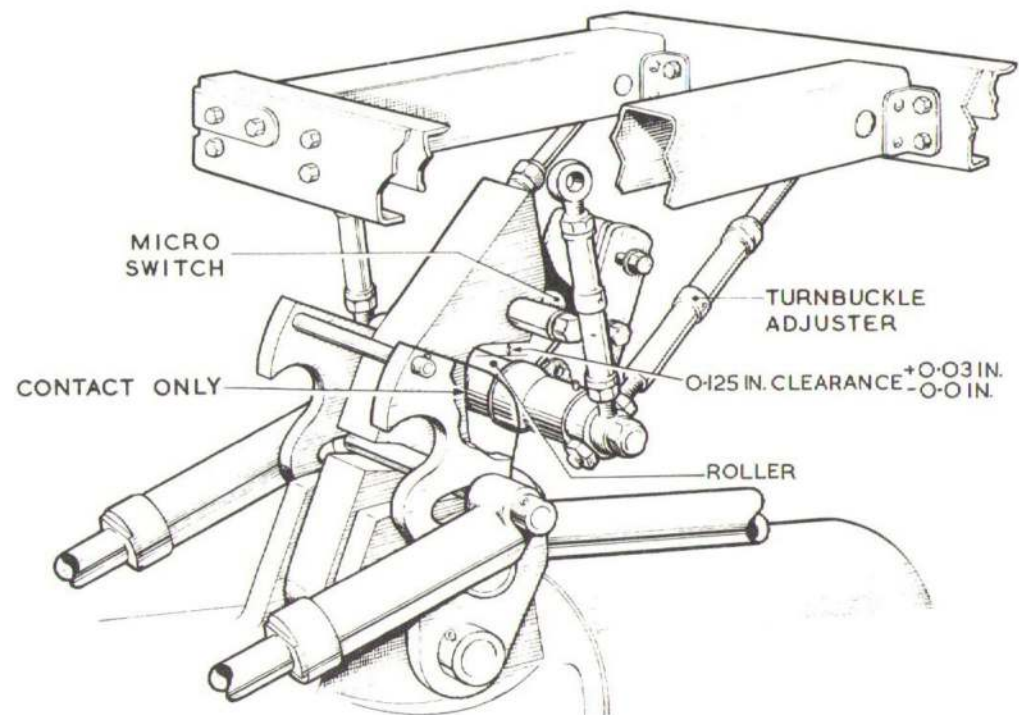

Fig.5. Setting the main undercarriage up-locks
5. A description of the radius rods, together with the action of the down-locks, is contained in A.P.1803E, Vol.1. The up-lock hooks are also described and these engage with an assembly secured to the roof of each main-wheel compartment (fig.5) and located between main plane centre section stringers No.3 and 4, counting from the front. The alighting gear position indicator is operated by a micro switch, for the down indication,